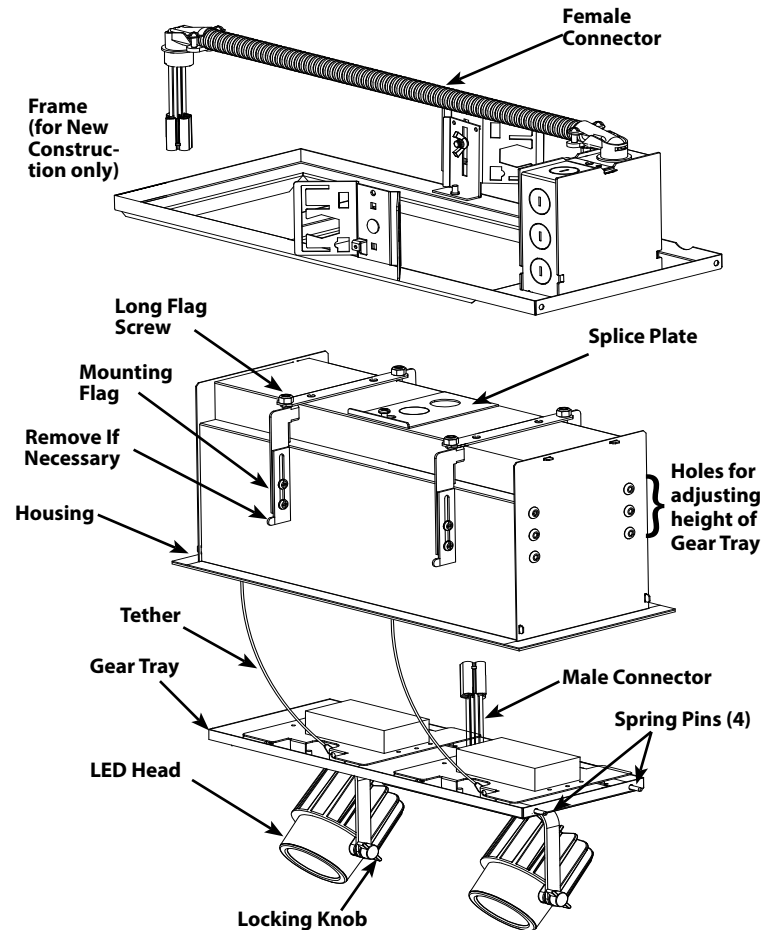

Fig 2
3. Adjust the length of **Mounting Flag** of Housing by positioning the **Flag Screw** such that **Housing** is close to ceiling surface. If necessary, remove part of flag. (Fig 2)